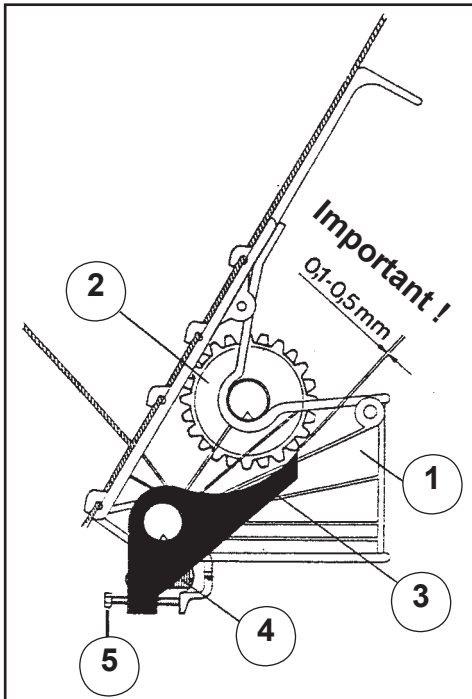

Fig 28
### 10 Bottom Flaps (Fig 28)
**By turning the metering wheel shaft by hand check the flaps are all set to a gap of 0.1 to 0.5mm (refer Fig 28).**
To adjust individual flaps use the spring tensioning screw (5) (Fig 28).